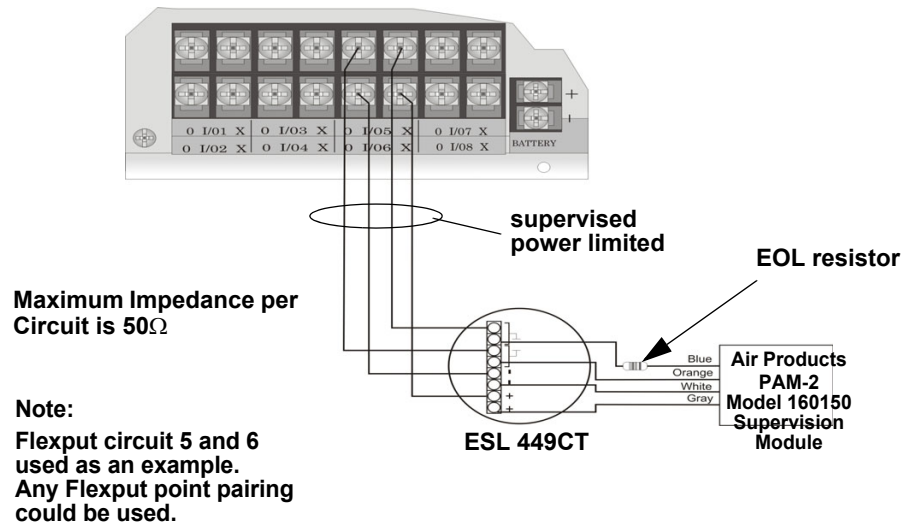
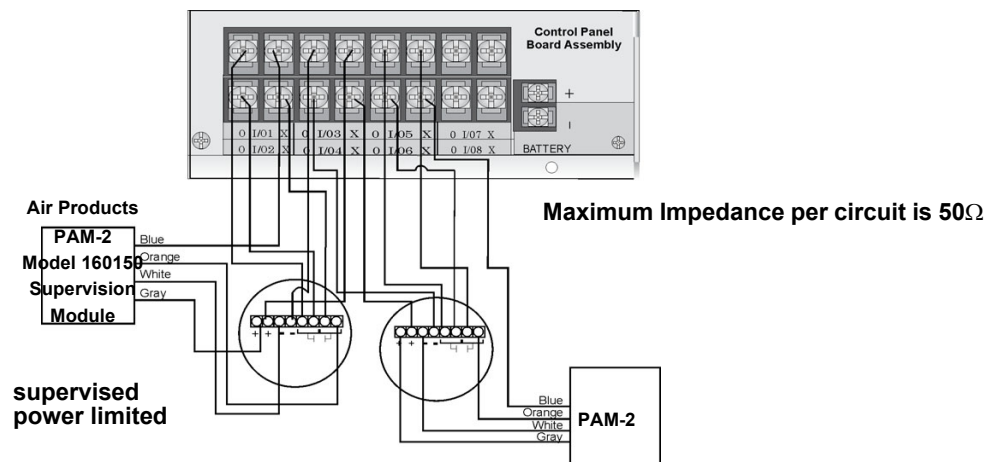

Figure 4.53 Class B 4-Wire Smoke Detector Connections
Figure 4.54 Class A 4-Wire Smoke Detector Connections
Any compatible UL listed four-wire smoke detector can be used with the control panel (see Section A for list of compatible smoke detectors). Figure 4.53 and Figure 4.54 illustrate how to connect a UL listed four-wire detector to the control panel.
Figure 4.53 illustrates how to install a 4-wire Class B smoke detector.
2. Each Class B loop input is paired with a unique power source as shown in Figure 4.53.
NOTE: In programming any point that uses multiple Flexput circuits, the lowest Flexput circuit number is used to refer to the circuit pair. For example, Figure 4.53 uses both Flexput circuit 5 and 6, so in programming it would be referred to as point 5
Figure 4.54 illustrates how to install 4-wire Class A detectors. Conventions used for wiring 4-wire Class A loops:
- Smoke power is supplied to each Class A loop as shown in Figure 4.54.
NOTE: In programming any point that uses multiple Flexput circuits are always referred to as the lowest Flexput circuit number used. For example, Figure 4.54 uses Flexput circuits 1, 2, 3 together and 4, 5, 6 together. In programming (1, 2, 3) would be referred to as point 1, and (4, 5, 6) would be referred to as point 4.